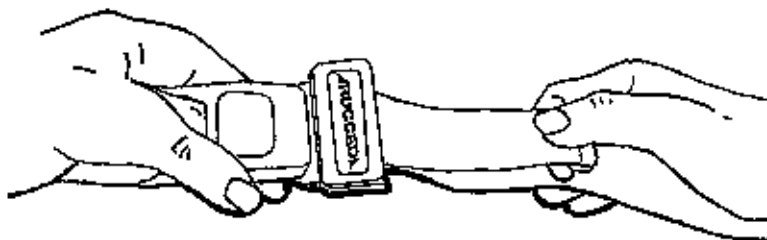

Figure 72
- To shorten the restraint, grasp the hemmed tab and pull the webbing back through the latch plate until the required tightness is achieved (Figure 72).